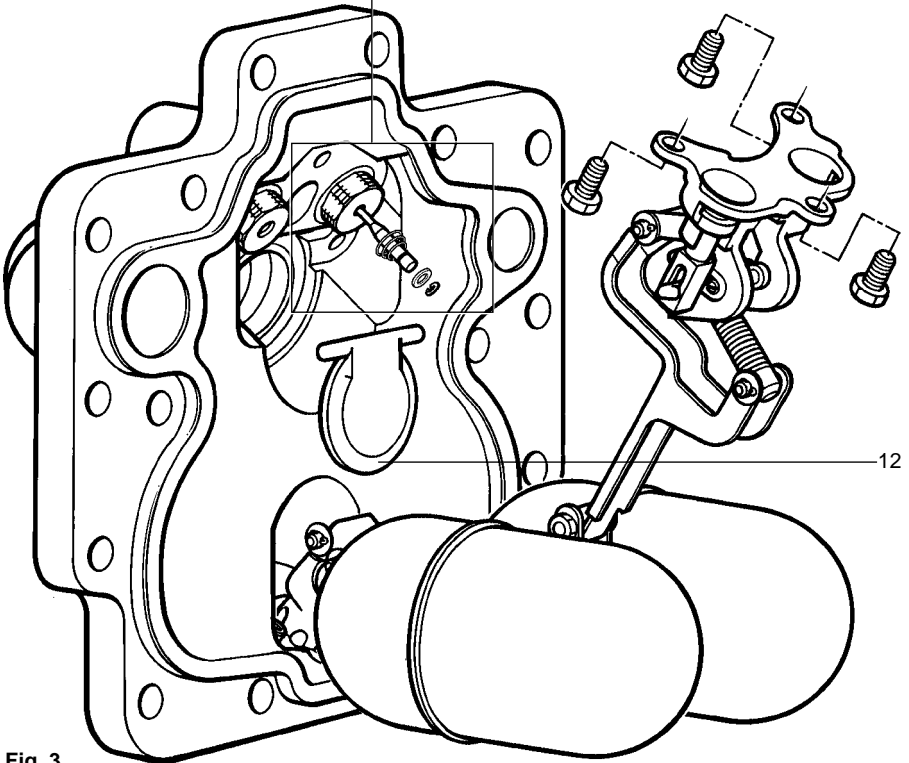

Fig. 3
3. Carefully remove the circlip, washer and the inlet valve spring (item 27) from the end of the steam inlet valve (item 17).
5. Lift away the pump bracket assembly (See Fig. 3). This will allow access to the inlet swing check valve (item 12).
13. Carefully reconnect the motive steam supply and the exhaust lines to the connections marked (IN) and (OUT). The APT14 is now ready to recommission.